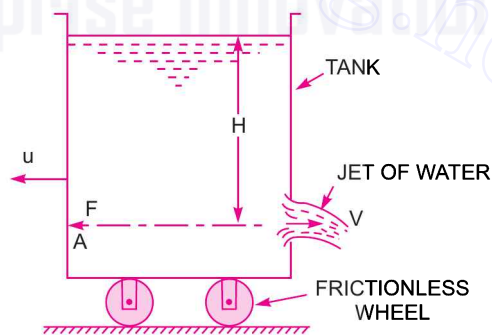

Fig. 17.25 Jet propulsion of a tank with an orifice.
**17.5.1 Jet Propulsion of a Tank with an Orifice.** Consider a large tank fitted with an orifice in one of its sides as shown in Fig. 17.25.
Thus,  $F$  is the force exerted on the jet of water. This jet of water will exert a force on the tank which is equal to  $F$  but opposite in direction as shown in Fig. 17.25. The force will be acting at  $A$ , the point on the tank in the horizontal line of the centre of the orifice. If the tank is free to move or the tank is fitted with frictionless wheel, it will start moving with some velocity say, ' $u$ ' in the direction opposite to the direction of the jet. When the tank starts moving, the velocity of the jet with which it comes out of the orifice will not be equal to  $V$  but it will be equal to the relative velocity of the jet with respect to tank.